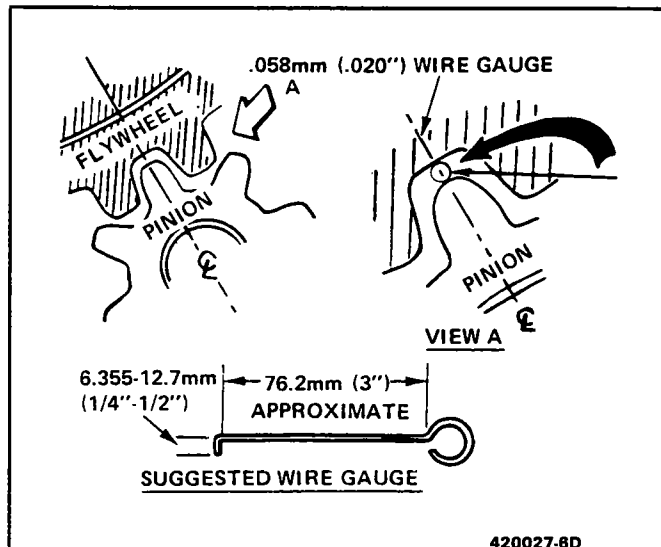

Figure 6D-44 Flywheel to Pinion Clearance
- d. Check pinion to flywheel clearance, as shown in Figure 6D-44, by using a wire gage of .5mm (.020") minimum thickness (or diameter). Center the pinion tooth between the flywheel teeth and gage, and not in the corners, where a misleading larger dimension may be observed. If the clearance is under this minimum, shimming the starter away from the flywheel is required.